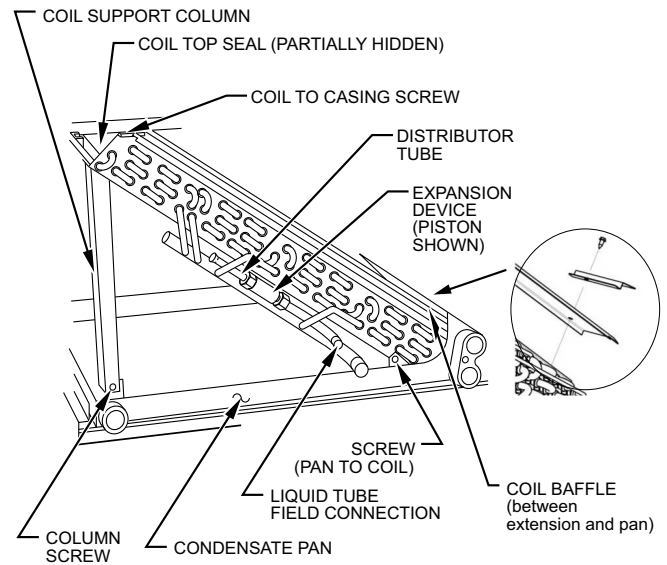
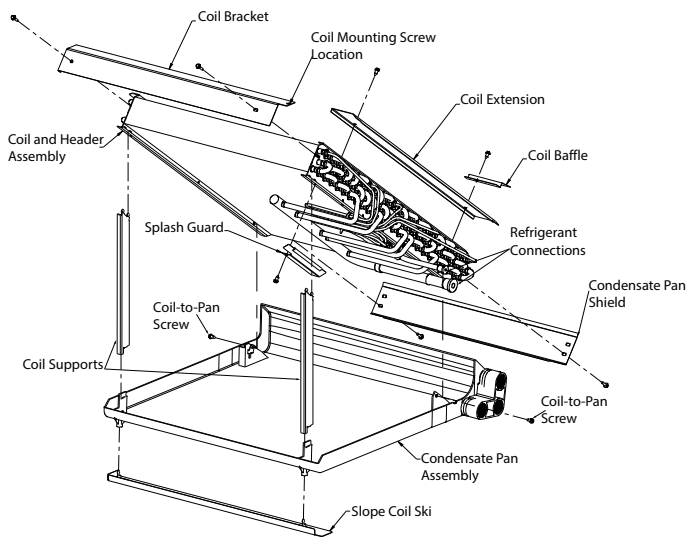

Fig. 32 – Slope Coil Component Location (Prior to 1996) A14304
Fig. 33 – Slope Coil Component Location (1996 and Later) ^{A14307}
8. Place assembly on a flat surface. On units manufactured prior to 1996, remove two screws securing coil support columns to pan (Fig. 32).
10. Remove two screws securing coil to condensate pan (Fig. 32 and Fig. 33).
12. Attach new painted Top Seal to new coil using brass colored screws included with packaging (Fig. 32 and Fig. 33).
13. Remove screw at bottom of coil extension and reuse to attached Coil Baffle in same location. Long side of baffle toward pan (Fig. 32 and Fig. 33).
15. Install new coil pan assembly into unit and secure with one screw previously removed from unit casing (Fig. 32).